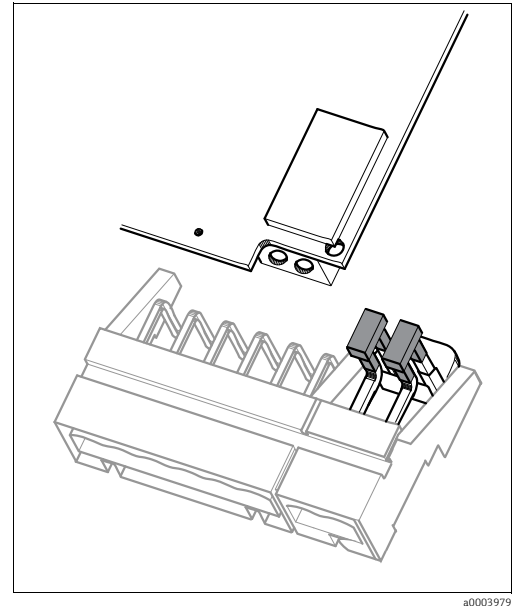

Fig. 27: pH input module in the housing cover with jumper for connecting ISFET sensors
6. Pin up the jumpers supplied as illustrated in Abb. 27.